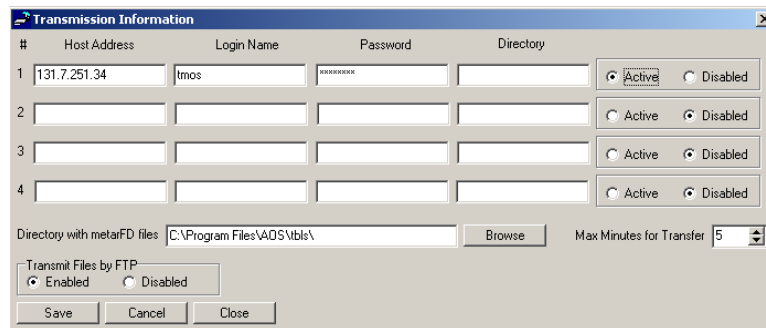

Figure 20. Transmission Information Screen
- (c) Enter information in the Transmission Information screen (see Figure 20).